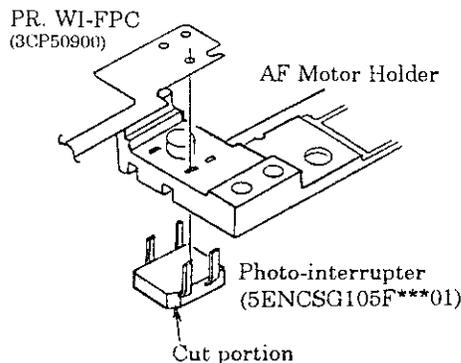

Fig.21
- 2) Install the cut portion of the Photo-interrupter (5ENC105F\*\*\*01) in the AF Motor Holder in a position as shown in Fig.21.
- 3) Peel off the back paper of the Lens Barrel FPC (3AZ21500) (See Fig.21) and attach the AF CD-FPC in parallel to the AF Motor Holder. In doing so, press the pattern surface of the AF CD-FPC lightly with a lens cleaning paper. (See Fig.25)
- 5) Assemble the AF Gear (1) (3AZ20300).